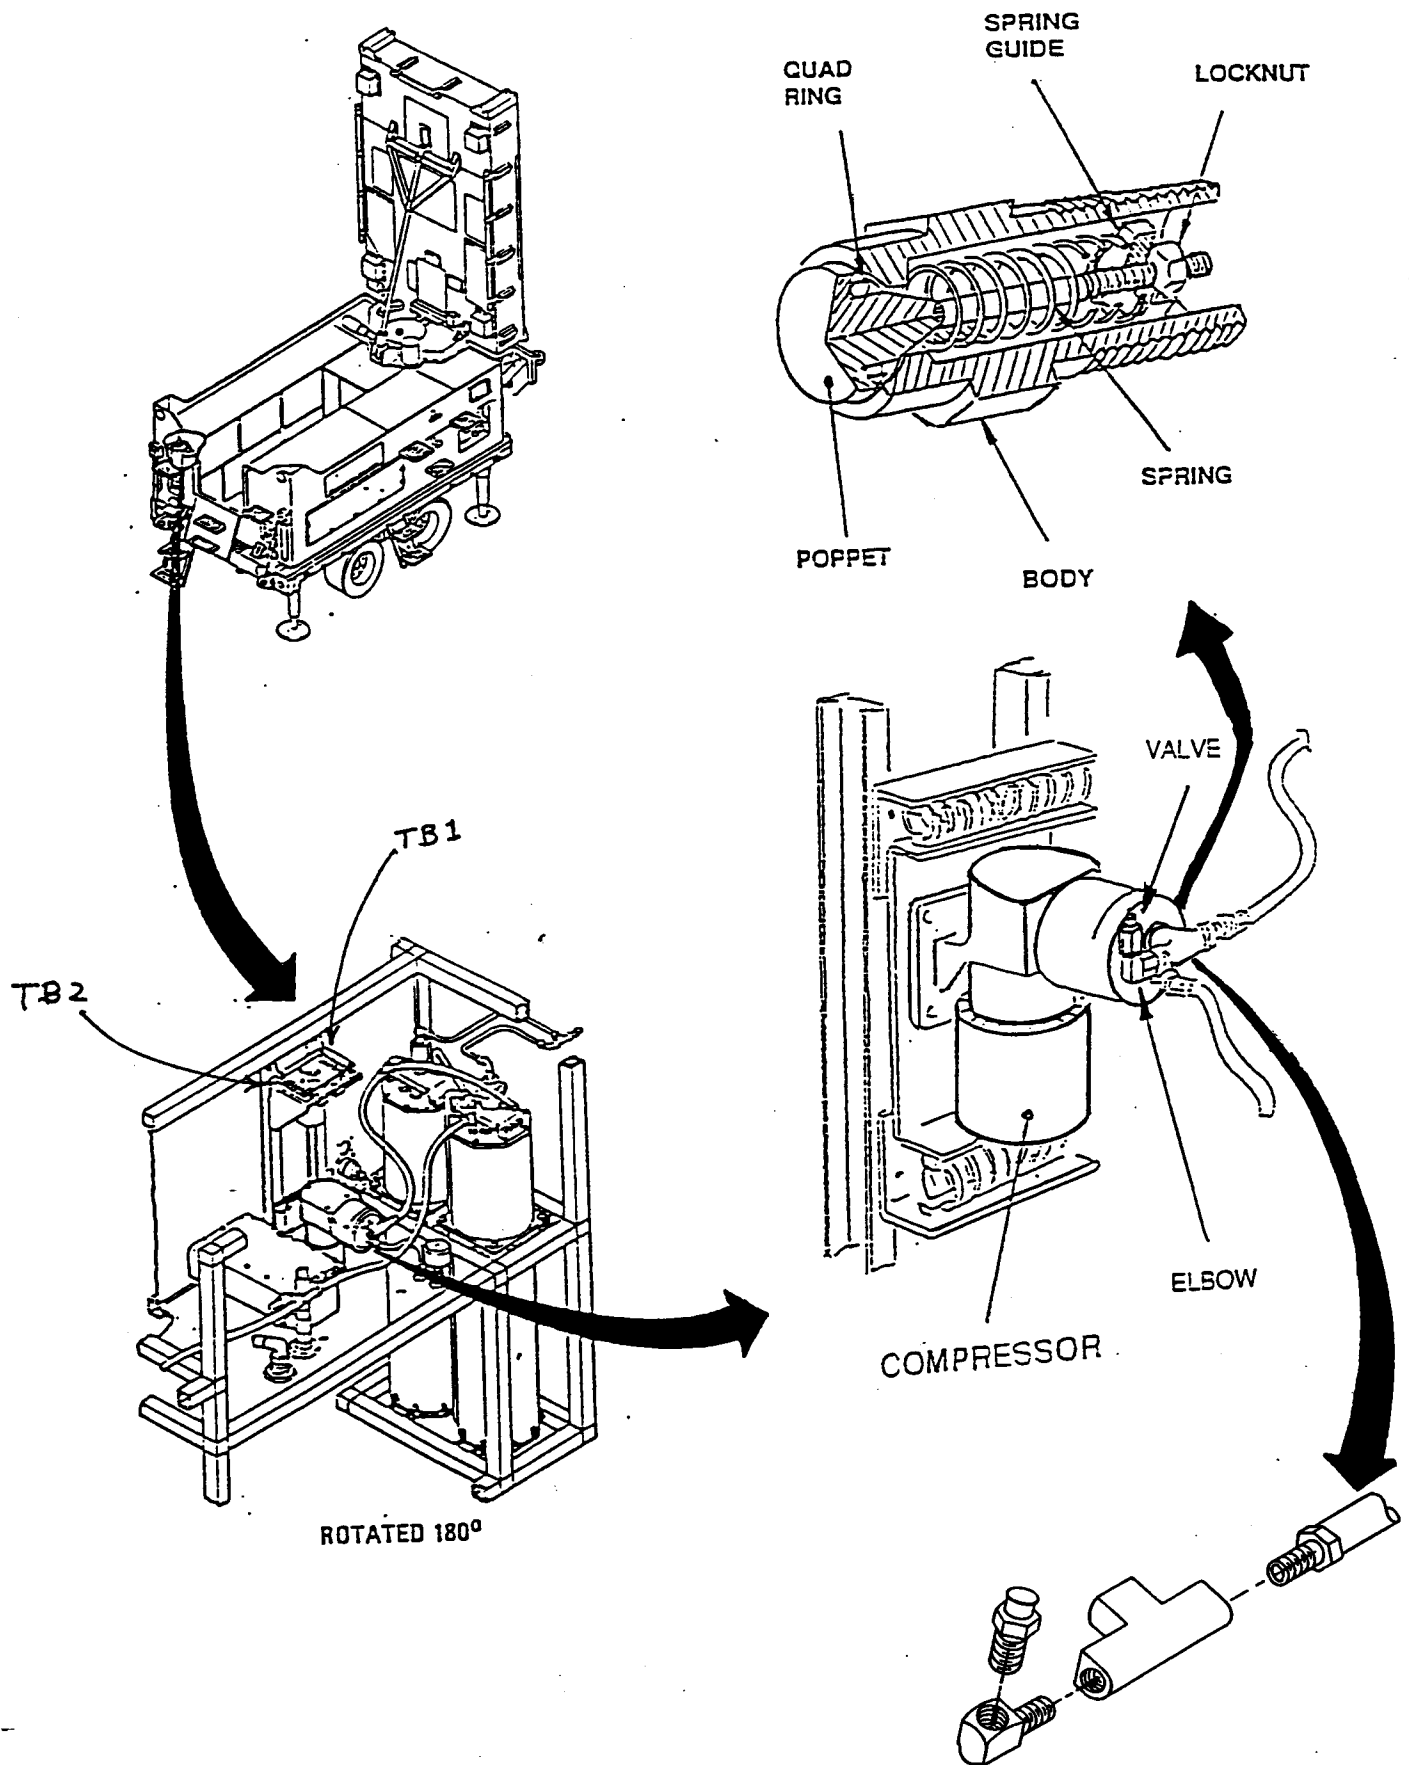

FIGURE 2
(1) Remove trailer safety aisle cover.
(2) Remove transmitter cabinet top cover. (See figure 2.)
(3) Observe operation of pressure relief valve mounted on the transmitter dehydrator air compressor. (See figure 2.) Valve should vent air continuously for no longer than 10 minutes.
(4) If valve vents air for longer than 10 minutes, de-energize the system and remove the valve.
(5) Inspect valve for damage. (See figure 2.) Check for a loose poppet, damaged or missing hardware, or corrosion/debris around the poppet quad ring seal.
(6) If valve shows signs of damage, replace the valve. (Valve is item 26 of references 1d and e. mentioned on the cover of this bulletin.) If valve shows no sign of damage, re-install it.
(7) Re-energize the system and recheck operation of valve after replacement/re-installation. If valve continues to vent for longer than 10 minutes, de-energize the system and proceed to locate the trouble using references mentioned in paragraph a (4) above.
- (1) Figure 4 is the timing diagram for the dehydrator time M1. The timer can be anywhere in its cycle upon power on. By measuring the voltage between terminals TB1 and TB2 (See figure 2), it can be determined what phase in the cycle the dehydrator is in.
- (2) Check out of the circuit M1 can be accomplished by recording the voltages between TB1-8 and TB1-1 (Canister A1 Select), TB1-6 and TB1-1 (A1 Heater), TB2-8 and TB2-1 (Canister A2 Select) and TB2-6 and TB2-1 (A2 Heater) at 30 minute intervals over a five hour period.